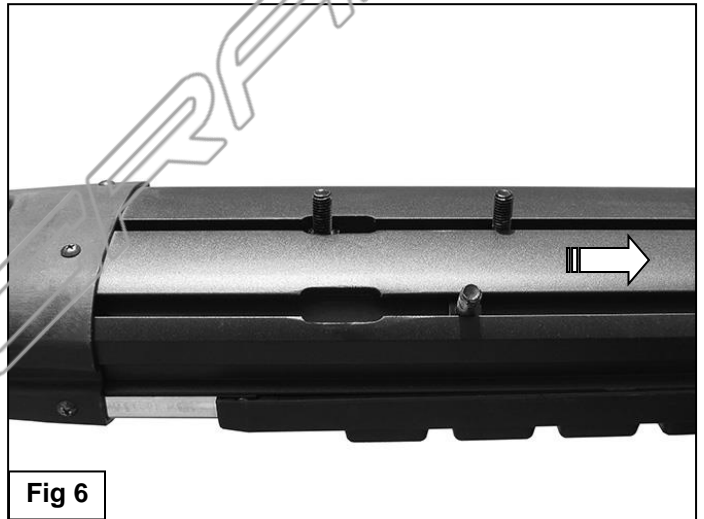

Fig 6
7. Select a Sidebar. **NOTE:** Uses the same Sidebar for either side of vehicle. Locate the opening in the end of the channels in the bottom of the Sidebar. Slide (3) 8mm T-Bolts into each channel, **(Figure 6)**. Carefully position the Sidebar onto the (3) Mounting Brackets. Lift the Sidebar up and slide the T-Bolts along the sidebar to match up with the Brackets. **IMPORTANT:** Do not slide, (front to back or rotate), the Sidebar on the Brackets or the finish on the Sidebar may be damaged.